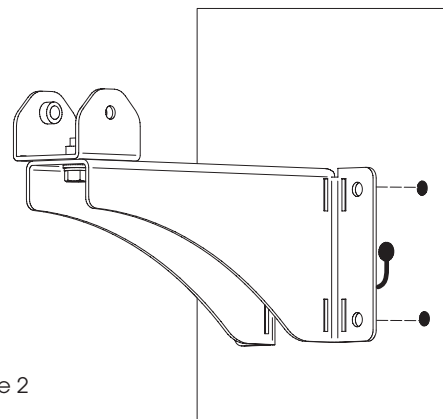

Figure 2
2. Hold the bracket to the wall and mark the bracket mounting pattern. Using the appropriate hardware and methods, secure the bracket to the wall (see Figure 2).